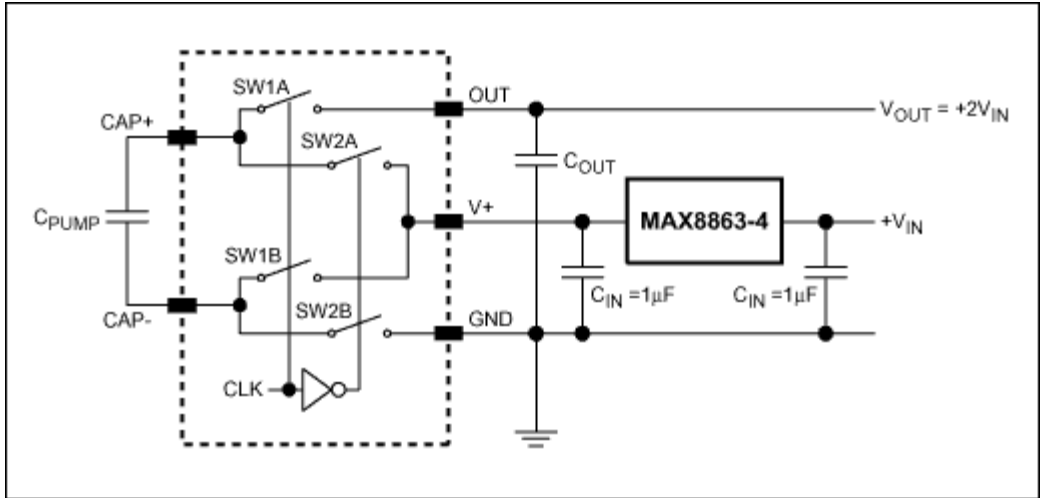

Figure 8. Charge pump doubler with LDO for input-ripple protection.
3. Adding a low-dropout linear regulator to the charge pump's input supply (**Figure 8**) yields an effective general-purpose circuit for preventing the effects of ripple on the rest of the system. The input LDO also operates with smaller capacitors than those associated with a passive LC filter: the 300mA MAX8860 LDO (available in an 8-pin μ MAX[®] package) requires 2.2 μ F capacitors at input and output; the MAX8863–MAX8864 family of 120mA linear regulators (available in SOT23 packages) requires only 1 μ F ceramic capacitors. The LDO must handle at least twice the charge pump's output load current, however. When compared with an equivalent passive filter, the added expense of that extra-current capability can place the LDO approach out of bounds in terms of cost and performance (pcb area and attenuation).